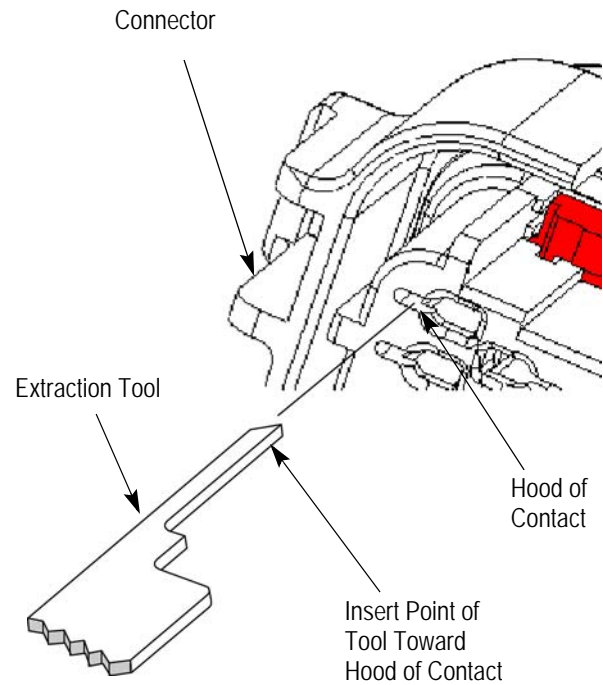

Figure 10
- a. Insert the tip of the extraction tool in the slot along side of the terminal hood, with the point of the tool toward the terminal hood. See Figure 10.